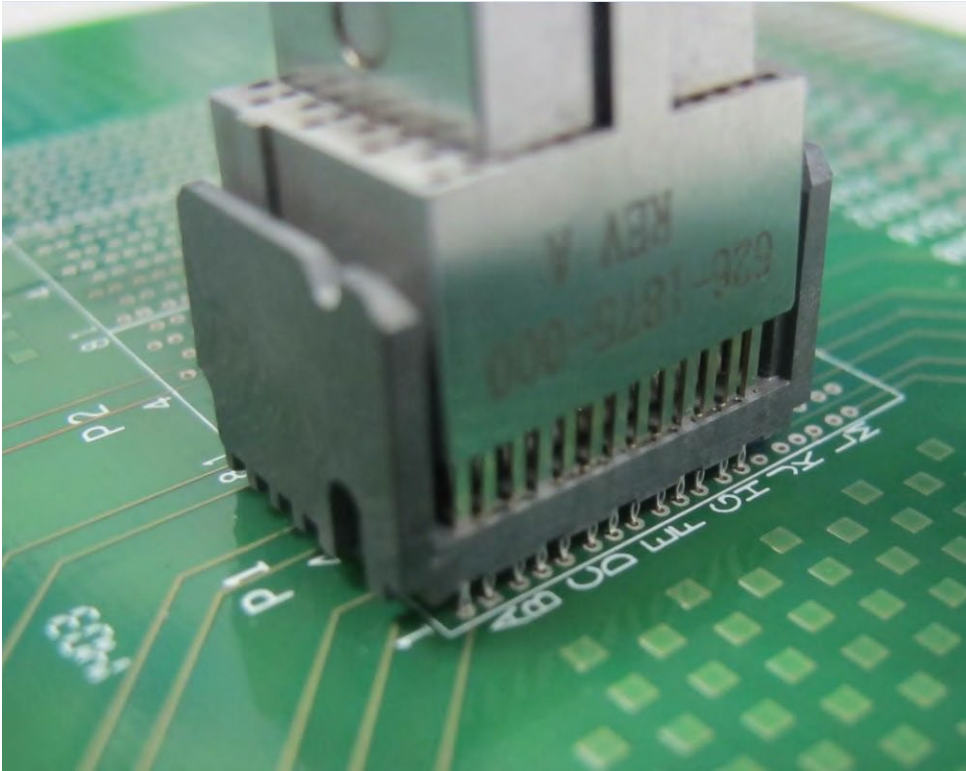
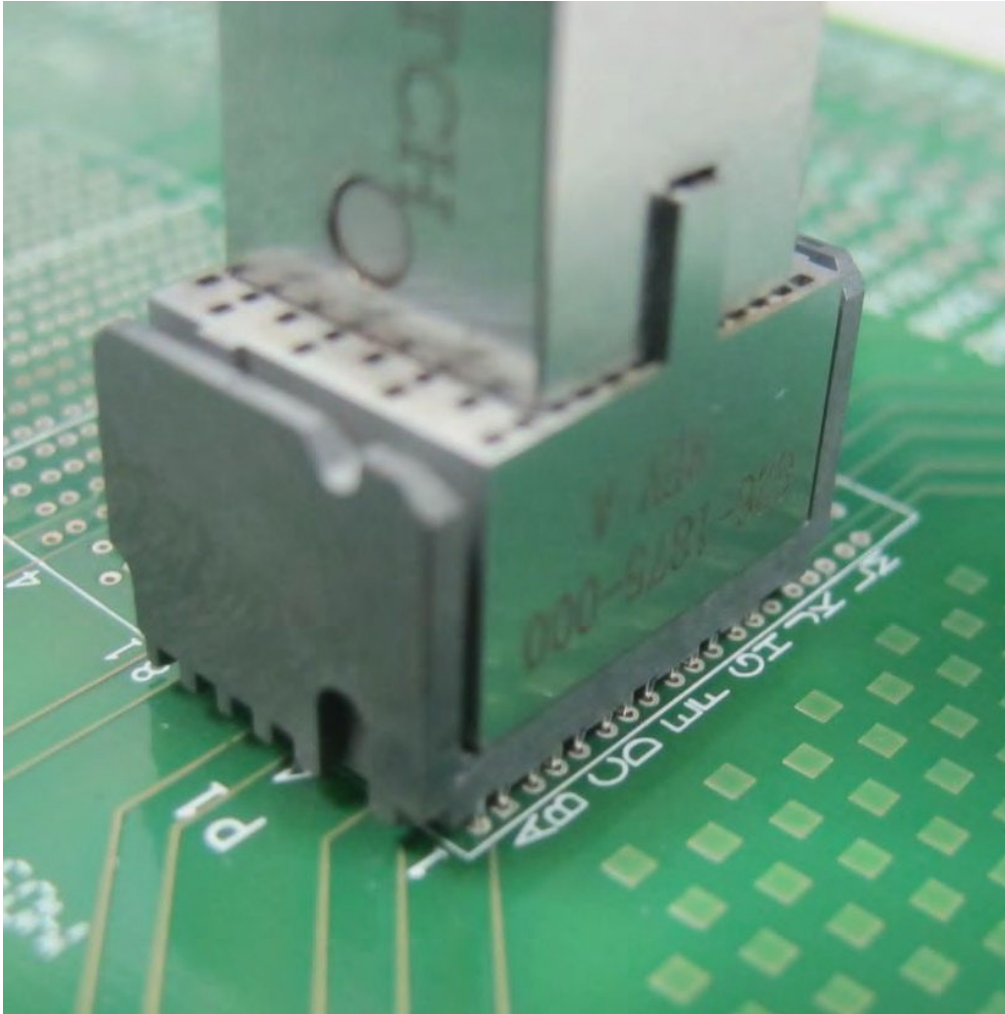

Figure6: The 4 Pair seating head matches the 4 Pair Backplane module.
Figure7: Ensure the cavities in the seating head match up to the blades on the backplane module.
Step 8. Select the correct seating head based on the connector platform (3, 4, or 6 pair) and the length of the connector, see Figure 6. Position the seating head directly over the connector blades being sure to align the proper cavities in the seating head to the blades on the backplane, see Figure 7.